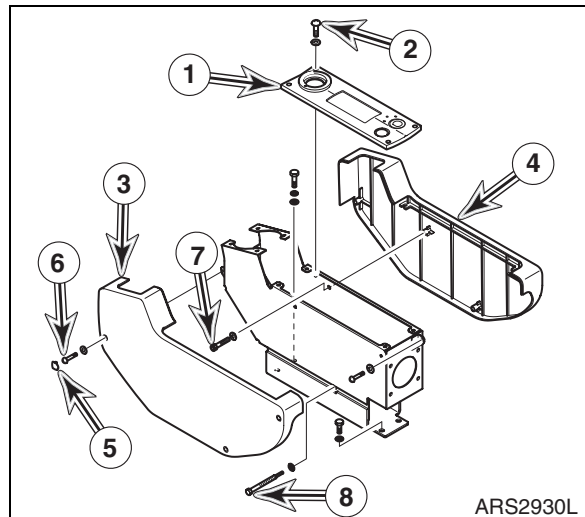

Figure 40
3. Install two screws, two bolts and washers (7 and 8, Figure 40) and cover (4).
4. Install a screw, three bolts and washers (6, Figure 40) and cover (3). Push cap (5) into cover (3).
5. Install four bolts and washers (2, Figure 40) and cover (1).